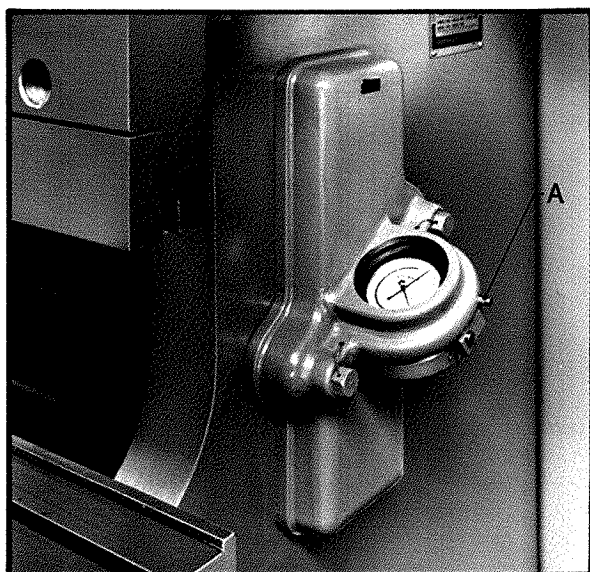

FIGURE 56
5. **TONNAGE INDICATOR (FIGURE 56):** The dial indicator located on the Press Brake housing shows the load in tons which occurs on a forming stroke. This is accurate for loads centered between the housings. The black hand registers the load and will remain at that tonnage until released by pressing pin "A". Press this pin after each reading. The tonnage should be noted particularly at set-up and at times during normal operations. Excessive tonnage can damage the part, tooling or machine. Do not continue to operate the machine until the cause for the overload has been corrected.